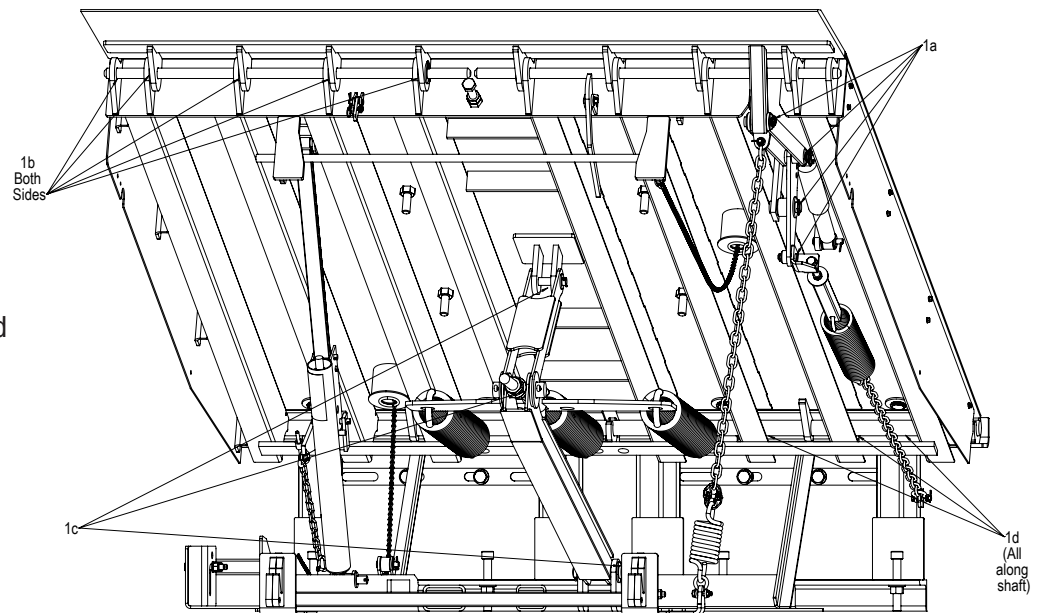

Figure 23
1. Lubricate the following areas with calcium sulfonate complex grease or other long-lasting, weather & pressure resistant, anti-seize, penetrating, lubricating oil/grease. See **Figure 23**: